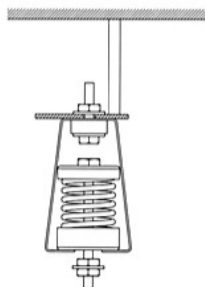

Fig.2
- 3、 To tighten the fixing nut 1,gasket 2 after the connecting blot have passed through the rubber mat (As Fig.2)